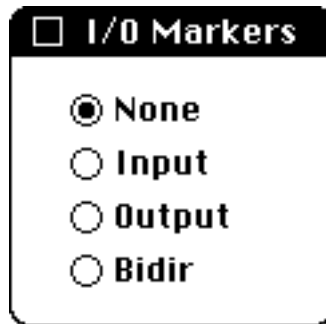

Figure 3-18 I/O Marker Dialog Box
1. Select the **Add->I/O Marker** command. A dialog box pops up allowing you to choose input, output, or bidirectional I/O pins. Figure 3-18 shows the I/O Marker dialog box.